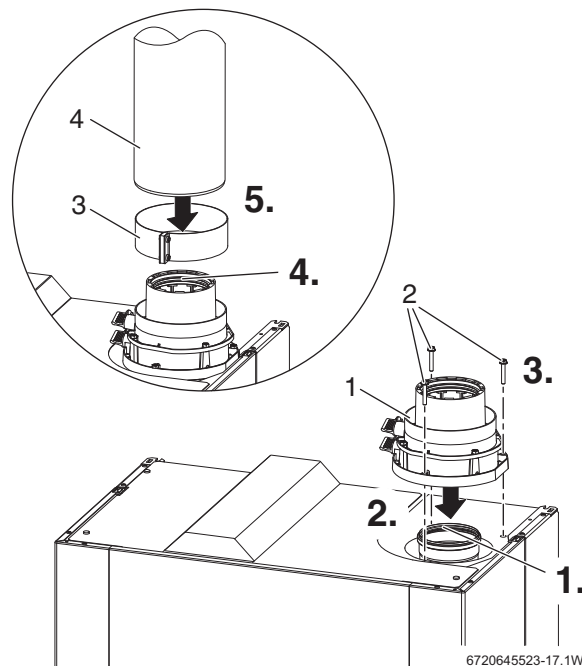

Fig. 31 Vertical flue
1. Refer to figure 31 and apply a light smear of grease to the flue outlet seal to aid fitting the vertical adapter.